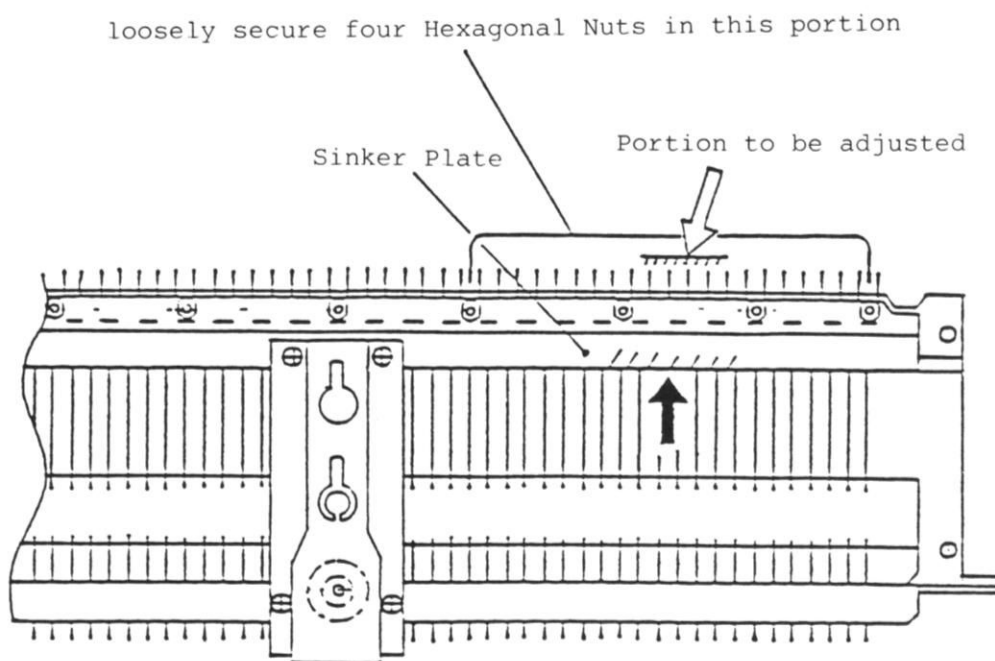

Fig.18
- b. Move forwards the portion of Sinkers to be adjusted by tapping the Sinker Plate with a Hammer as shown in Fig.18 and 19.